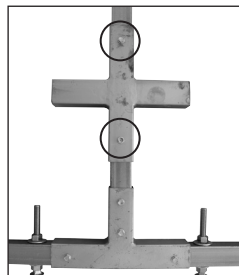

FIG. 2
2. Assemble the two end base rails and the mid base rail as shown in Figure 2. The 3-way connector should be loose between the levelers at this time.
**FIGURE 2:** Assemble base rails as shown. The 3-way connector is loose at this point. Levelers should be finger-tight to allow for adjustments once the system is assembled and in position.
2. Using the diagram to the right, position the 4-way connector as shown and secure to the vertical tube using two (2) Tek screws (Fig. 2).